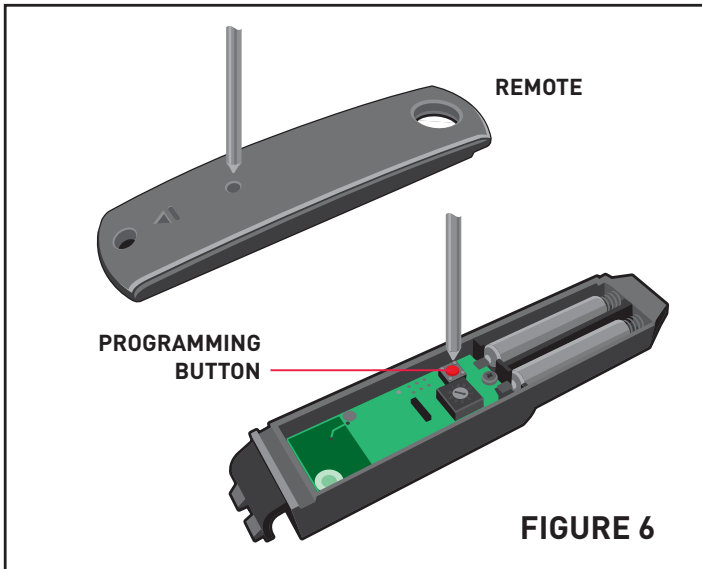

FIGURE 6
6. Press the programming button (See Figure 6) on the back of the **remote that was supplied with the awning** until the motor “jogs”. A “jog” is a short back and forth movement of the motor.
7. Press the programming button located on the sensor (See Figure 6) until the motor “jogs”, then release. The red LED will come on briefly again.
- b. Press the programming button (See Figure 6) on the back of the **remote that was supplied with your awning** until the motor “jogs”. A “jog” is a short back and forth movement of the motor.
- c. Press the programming button located on the inside of the sensor (See Figure 6) until the motor “jogs”, then release.